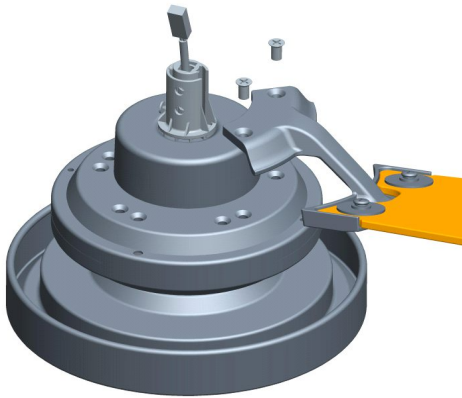

Fig 4.1
4.1 Fix the prepared blade bracket to the motor assembly with the blade bracket screws as shown in Fig 4.1.